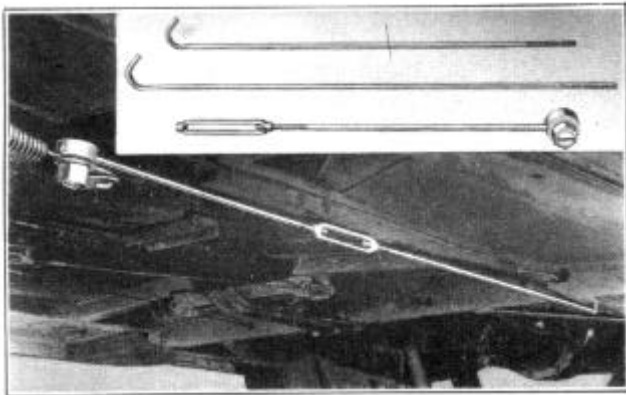

FIGURE 8
4. Remove clutch overcenter spring using tool J-2956, Figure 8.